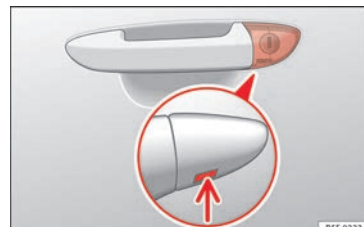

Fig. 3 Driver door lever: hidden lock cylinder.
- Insert the key shaft into the lower opening in the cover on the driver door handle **»** **Fig. 3** (arrow) then remove the cover upwards.